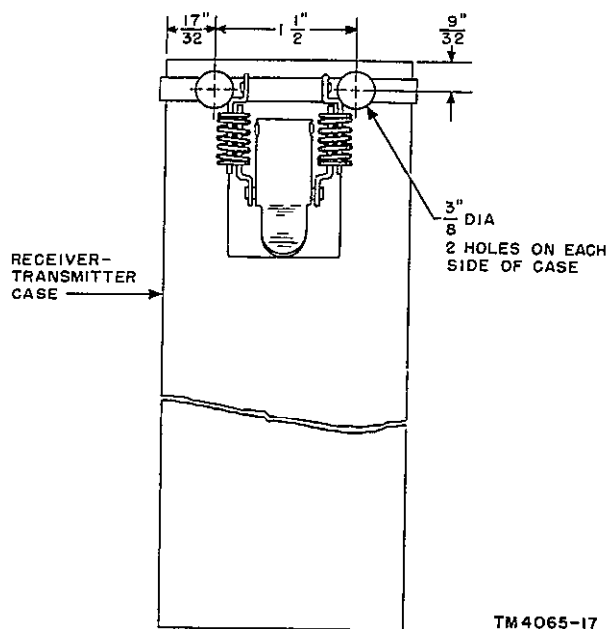

Figure 44. Holes in jig used for panel and chassis alignment.
- (4) Remove the spring tension clip (or bus wire) from the TUNING gang scissor gear. Replace the drum dial pointer and dial pointer spring in their original positions.
- (5) Replace the two mounting screws that fasten the tuning drive mechanism to the chassis. These screws can be reached through the openings in the dial drum.
- (6) Solder the two leads back to their original connections; one lead at LONG ANT connector J1-A extending coil L6, and the second lead at terminal 4 of L6 extending from AUX ANT connector J3.
c. *Mechanical Alinement of Panel and Chassis Assembly.* A jig (fig. 44) is required to assure correct mechanical alinement of the panel and chassis assembly so that it fits properly in its case.
(1) Fabrication of jig.
- (d) Drill four $\frac{3}{8}$ -inch diameter holes, two on each side of the case, near the front (top), as shown on figure 44.
- (2) Use a jig.